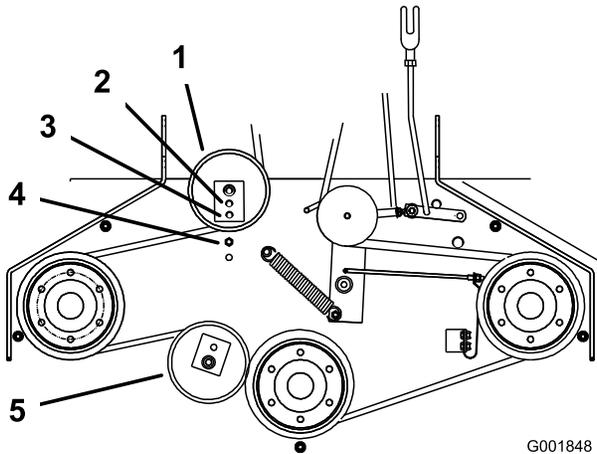

Figure 46
positioned to the middle or front hole (Figure 46). Use the hole that will give the correct adjustment.
- When the idler pulley is moved the belt guide must be moved. Move the belt guide to the front position (Figure 46).